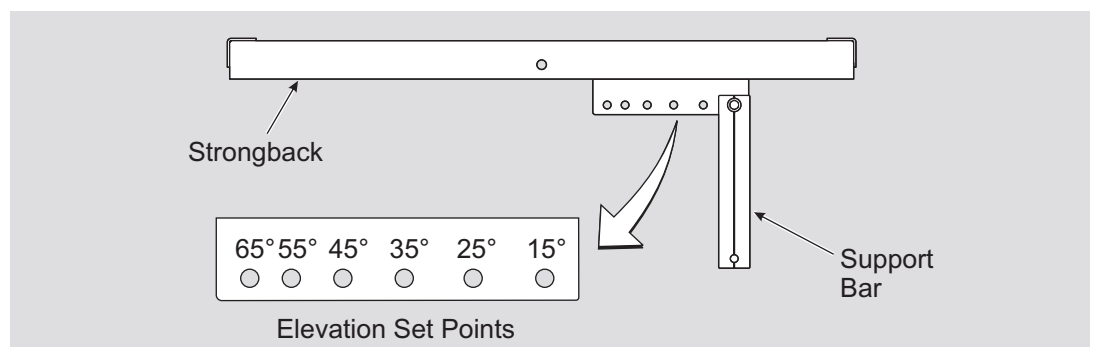

Figure 6-2: Setting the Tilt Angle
- B. Tilt the rack to the desired elevation angle (15°, 25°, 35°, 45°, 55° or 65°) and re-attach the Support Bar to the Strongback placing the 3/8" hardware in the appropriate hole matching the desired elevation. **Torque to 32-34 ft.-lbs.** (See Figure 6-2)